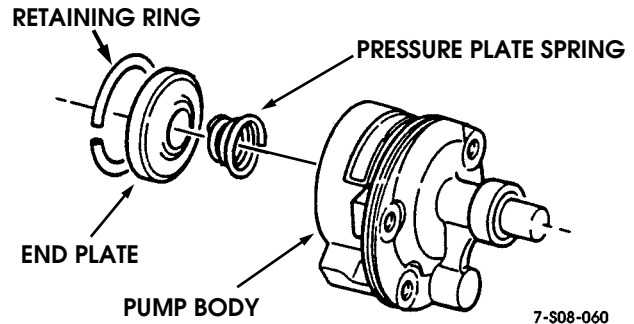

Figure 8-74: End Plate Removal
19. Remove retaining ring from pump body (Figure 8-74).